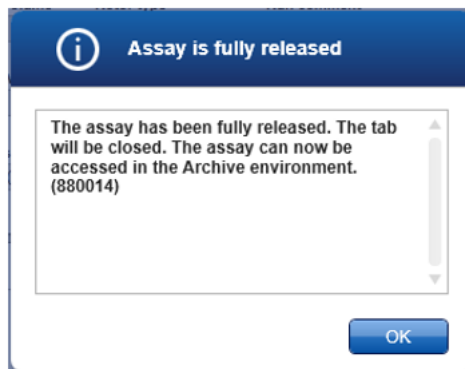

Figure 16. Example of Assay is fully released window.
27. Click **OK**. The Assay is fully released dialog box will open (Figure 16).